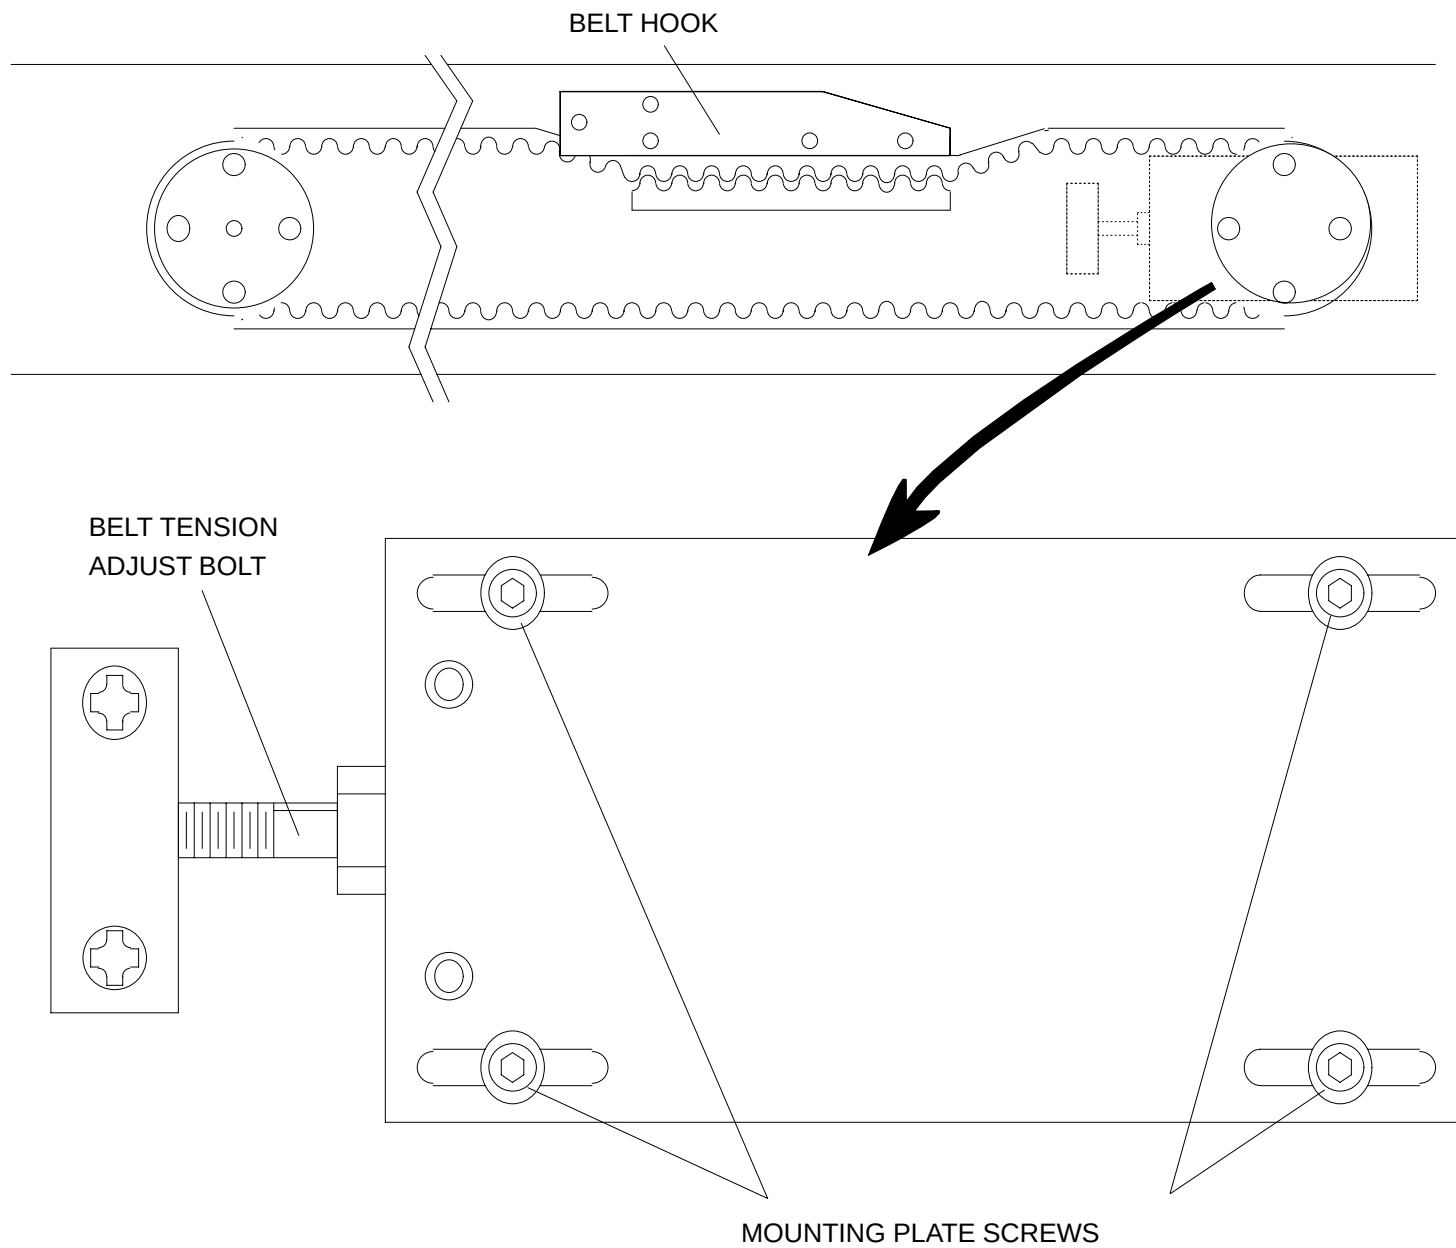

FIGURE 87 HORIZONTAL DRIVE BELT TENSION ADJUSTMENT
5. Loosen (but do not remove) the four mounting screws that secure front pulley mounting plate to the right side rail. Loosen these screws just enough to permit movement of the mounting plate. Refer to Figure 87.